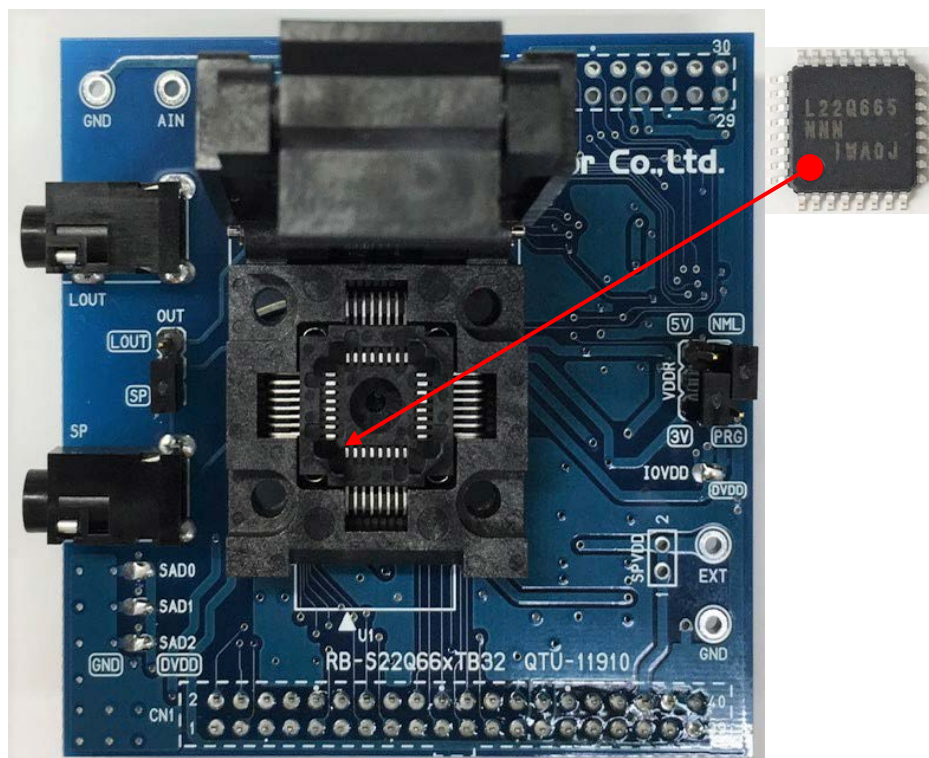

Figure 1 Outline Diagram
- Turn off the power when loading Speech Synthesis LSIs into the RB-S22Q66xTB32. Pin 1 is the position of the board silk ▲ at the bottom left with respect to the socket opening. The Figure 1 shows the setting directions of Speech Synthesis LSIs.